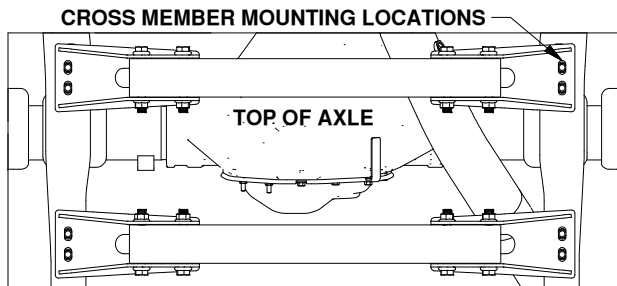
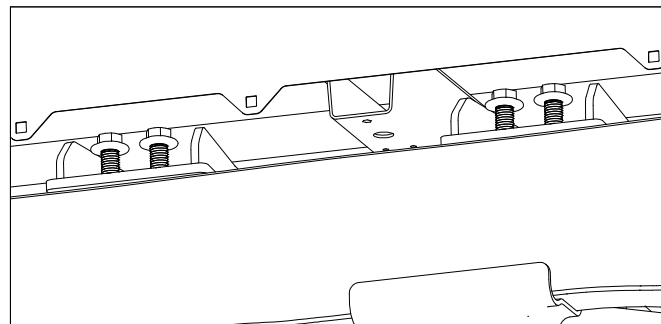

Figure B1: View looking down over truck frame (bed not shown).
Figure E1: View looking into passenger side wheel well.
- 1. Cross member installation location.** The cross members for this hitch installation are designed to rest on top of the truck frame and mount to existing threaded holes on the top of the frame rail. To make installation as easy as possible, locate and familiarize yourself with these threaded holes before installing the cross members. See Figure B1 for a top down view of the frame with the cross members installed.
- 2. Locate parts and hardware.** Locate the two cross members and the four cross member brackets. These will be assembled together using 5/8" x 4-1/2" flange bolts and 5/8" flange nuts, see Figure B1.
1. **Install M14 bolts.** Locate the eight M14 X 35mm flanged head bolts. Pass each bolt through the cross member brackets and into the threaded holes in the frame as shown in Figure E1. Refer back to Figure B1 for frame bolt locations. Do not fully tighten hardware connections at this time.